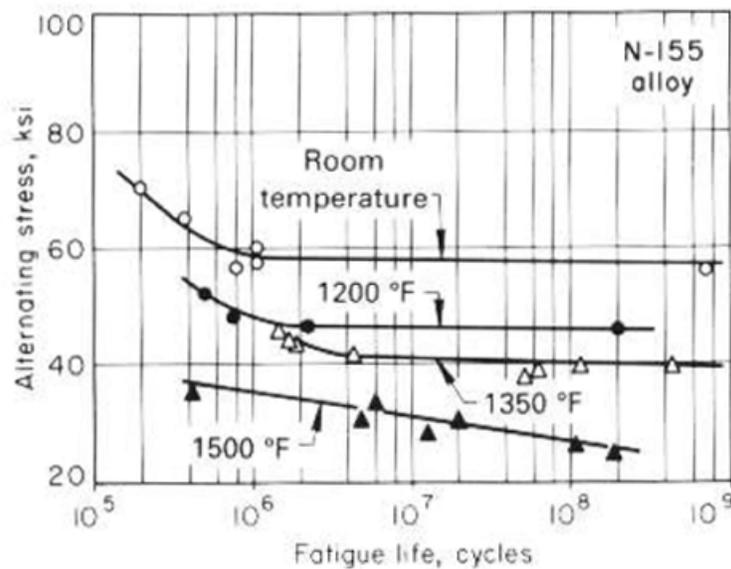

Fig. 1 Fatigue life of a specimen of N-155 alloy subjected to various temperatures and reversed bending stress
- Fig. 1 shows typical $S-N$ curves for reversed bending fatigue tests conducted on a structural metal alloy at various temperatures. The fatigue limit is clearly lower at the higher temperatures.